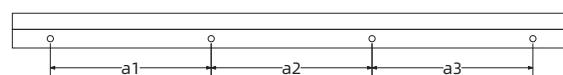
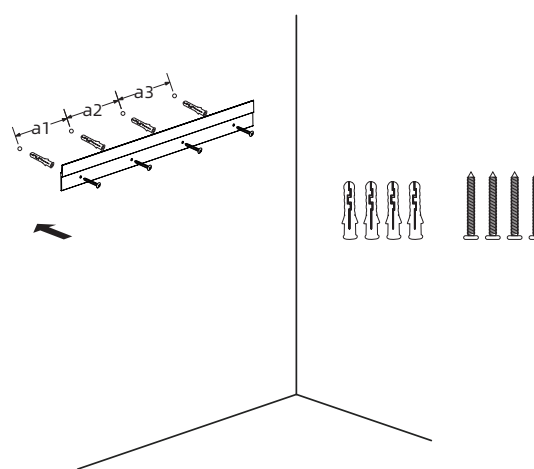

Fig.1
Fig.2
- ① Open the product packaging, and check whether the product has any cosmetic or functional damage; if yes, please return it to the dealer.
- ② After selecting the location of the mirror cabinet, check whether the wall is solid, measure the distance of the holes (a_1, a_2, a_3) in the aluminum alloy bar with a tape measure and mark the wall with a level and pencil (Fig. 1).
- ③ Drill holes in the marked positions with electric drill and $\phi 4$ drill bit. Use a special ceramic drill if the wall surface is ceramic tile.
- ④ Knock the expansion plugs into the holes in the wall with a hammer. Tighten the screws with a screwdriver to fix the bar. Finally calibrate the level with a spirit level (Fig. 2).